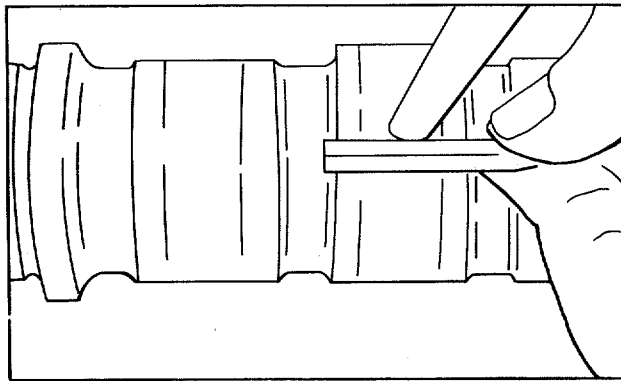

Figure 4. Checking Cam Lobe Wear
1. With a tapered leaf set of feeler gages (0.0015-0.0100 inch) and a piece of square hard material 1/8 x 3/8 x 1 inch measure the flat on the injector rise side of the cam lobes (Fig. 4).